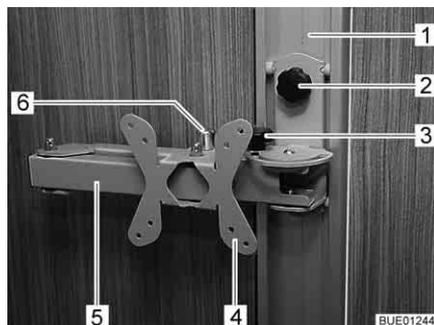

Fig. 54 Rail-mounted holder
- Undo the tommy screw (Fig. 54,2) and adjust the holder (Fig. 54,4) in the rail (Fig. 54,1) until it is at the desired height.
- Undo the tommy screw (Fig. 54,3).
- Pull the release knob (Fig. 54,6). The jointed arm (Fig. 54,5) is unlocked.
- Re-tighten the tommy screw (Fig. 54,3).
- Swing the flat screen back into its original position until you hear the jointed arm (Fig. 54,5) lock into position.
- Undo the tommy screw (Fig. 54,2), adjust the holder (Fig. 54,4) to the desired height and re-tighten the tommy screw.